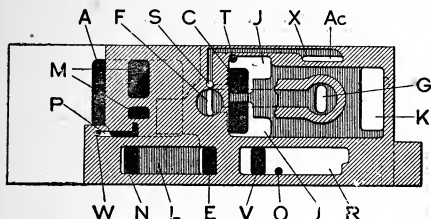

Fig. 16.—Release Position.
**Automatic Release and Straight Air Application Position** (Fig. 16). The purpose of this position is to promptly release and recharge the automatic brakes and to apply the straight air brakes or retain the pressure in the locomotive and tender brake cylinders. In this position air flows directly from chamber B, (main reservoir) into chamber A, (brake pipe) past the end of the slide valve and through ports M. Port O is open to the atmosphere through port V to permit piston EV 311 to return to its normal position. Port T is open to the atmosphere through J and C. The supplementary reservoir is being charged to brake pipe pressure through groove P and port W from chamber A. Port E is brought into communication with port N by passage L, permitting air to pass to the locomotive and tender brake cylinders through the straight air pipe and double check valve until shut off by the  $\frac{3}{4}$  inch pressure controller, the regulating top of which is connected to the straight air pipe and adjusted at 40 pounds. By placing the valve handle about midway between release and running positions the straight air ports can be lapped, making it possible to